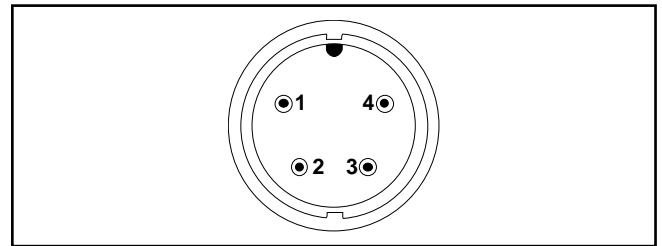

Figure 7. RF Detector Cable Connector Pin Layout
4. Connect the DMM leads between pins 1 and 2 of the RF detector cable connector (Figure 7). Measure the resistance value, which is the maximum resistance of R1 (approximately 40.5 KΩ is typical). Record this value; it will hereafter be referred to as “R_T”.